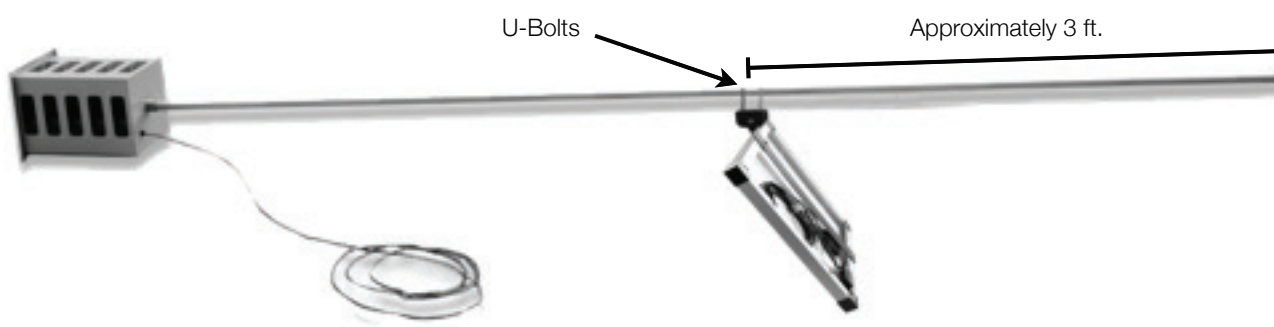

Figure 5
5. Rest the lower end of the Mounting Pole on the Solar Panel Mounting Bracket approximately three feet from the bottom of the pole with the top of the solar panel facing the 20-Speaker Tower (Figure 5).